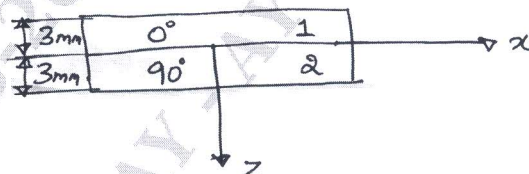

Fig.Q8(b)
b. Find A, B, D matrices for the 2 ply laminate as shown in the Fig.Q8(b). Assume both the laminate have identical stiffness matrix Q as follows: